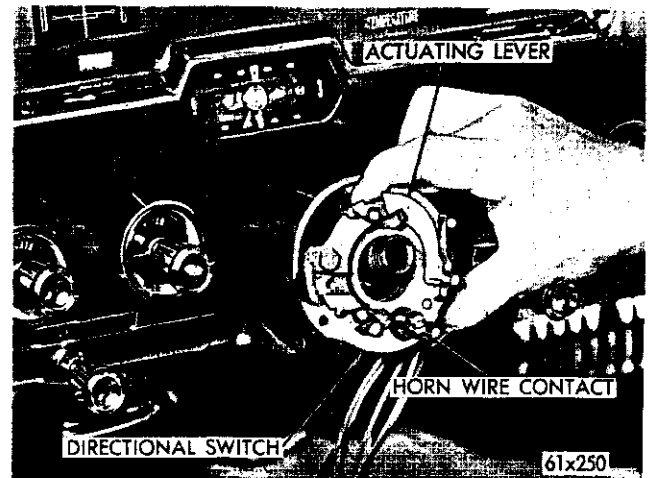

Fig. 27—Removing the Directional Switch
(14) Remove the two screws and disconnect the switch wires at the connection and remove the directional switch and wires (Fig. 27).